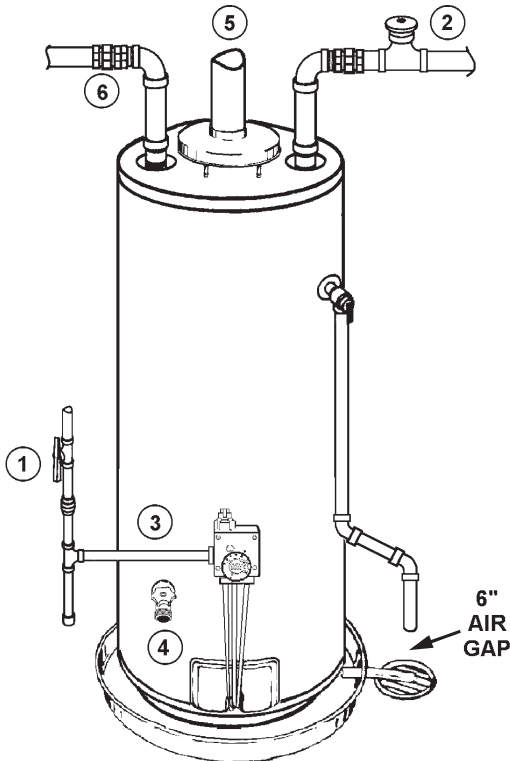

FIGURE 2.
If the main gas line Shut-off valve serving all gas appliances is used, also shut “OFF” the gas at each appliance. Leave all gas appliances shut “OFF” until the water heater installation is completed, see Figures 2 and 3.
- ② Turn “OFF” the water supply to the water heater at the water shut off valve or water meter. Some installations require that the water be turned off to the entire house, see Figures 2 and 4.
- ④ Attach a hose to the water heater drain valve and put the other end in a floor drain or outdoors. Open the water heater drain valve. Open a nearby hot water faucet which will relieve pressure in the water heater and speed draining. The water passing out of the drain valve may be extremely hot. To avoid being scalded, make sure all connections are tight and that the water flow is directed away from any person, see Figures 2 and 5.